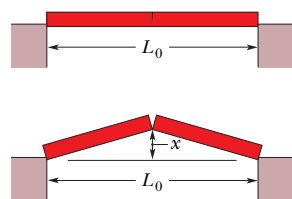

Fig. 18-31 Problem 21.
••21 **SSM ILW** As a result of a temperature rise of 32°C , a bar with a crack at its center buckles upward (Fig. 18-31). If the fixed distance L_0 is 3.77 m and the coefficient of linear expansion of the bar is $25 \times 10^{-6}/^\circ\text{C}$, find the rise x of the center.